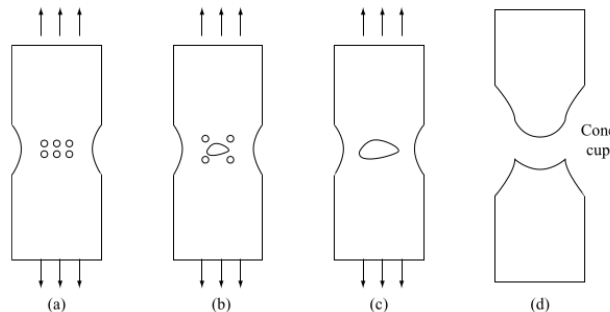

Figure 1: Ductile fracture from [1]
1. (1) What is the physical significance of the statement "a vector representing a material object is invariant under coordinate transformation"?
2. (2) What is the basis of the constraints necessary if you were to write down a constitutive relationship between stress components $\underline{\underline{\sigma}}$ and the deformation gradient $\underline{\underline{F}}$? (mention the most basic one discussed in class)
3. (1) As a ductile specimen is subjected to a Uniaxial Tensile Test, we have discussed that it undergoes failure through the formation/fusing of dislocations in the bulk (see fig. 1).